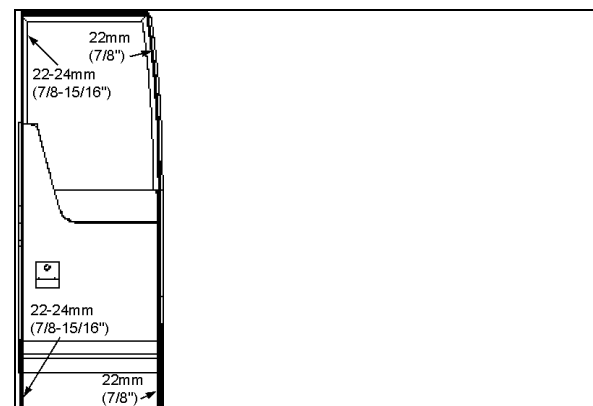

FIGURE 28: SEAL COMPRESSION ADJUSTMENT
2. From the outside of vehicle, insert a straight edge in the gap along the door outside perimeter. Measure the distance between the door frame and the door outside surface at the door four corners (refer to Figure 28).